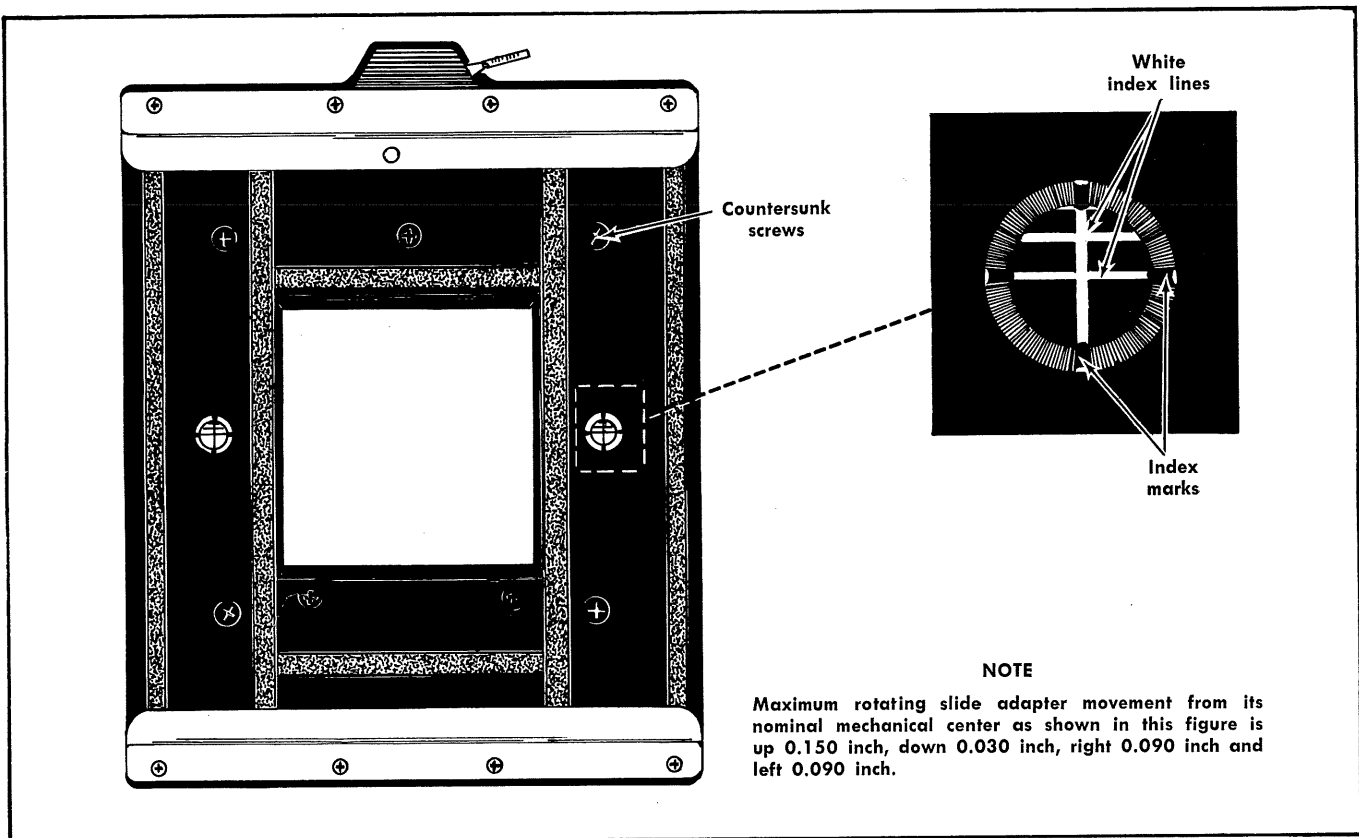

Fig. 2-4. Adjustable Style Rotating Slide Adapter.
c. Note the relationship of both the vertical and horizontal white index lines to the index marks of the rotating slide adapter; see Fig. 2-4.
d. Loosen, but do not remove the four countersunk screws, see Fig. 2-4. Move the back portion of the rotating slide adapter to the desired marks of the rotating slide adapter as alignment guides.
e. When the rotating slide adapter has been correctly positioned, re-tighten the four countersunk screws, see Fig. 2-4.